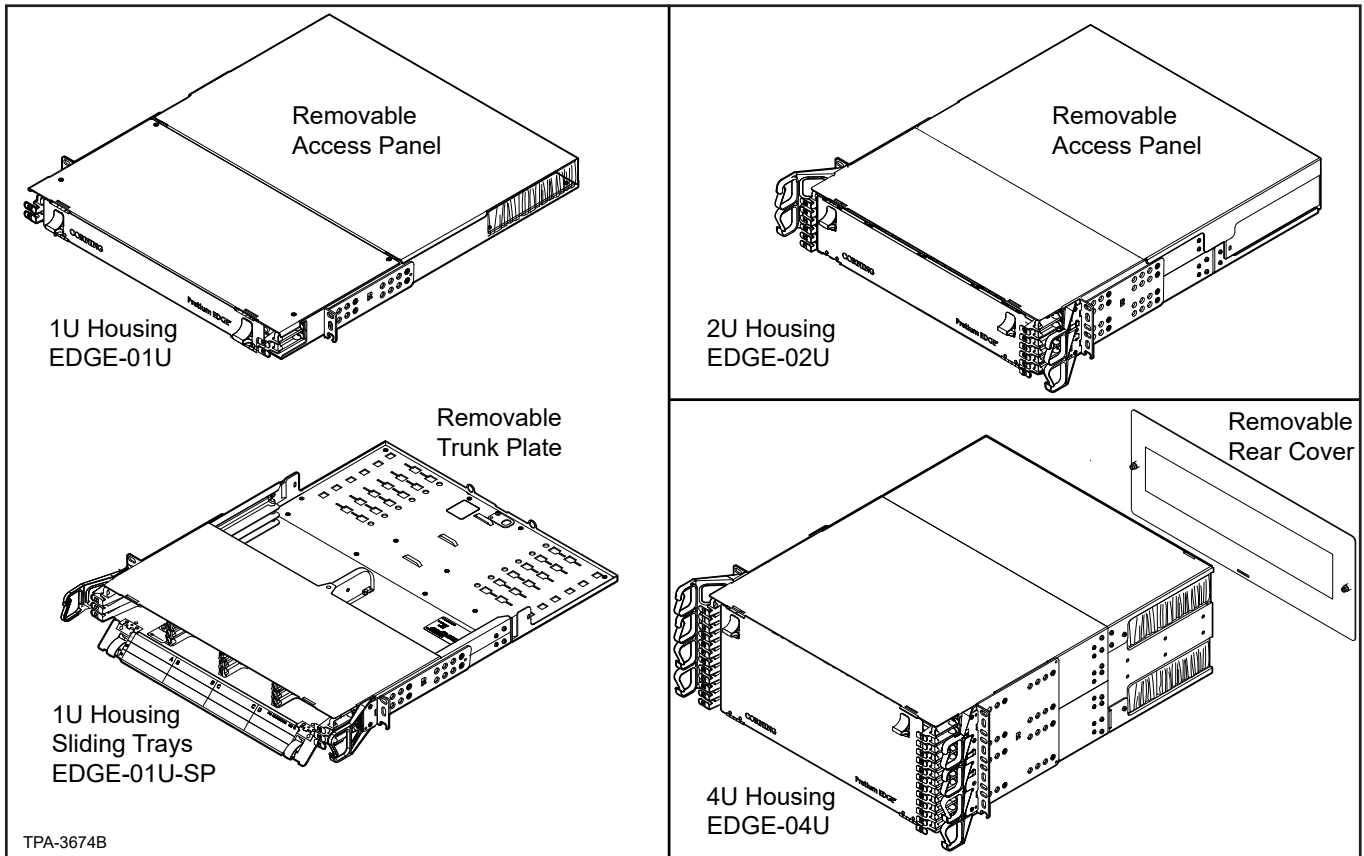

Figure 1 — EDGE Housings
This document describes installation of the EDGE™ 1U, 1U-SP, 2U, and 4U Housing Solutions (Figure 1). Except where installation of another housing is unique, only the 4U housing is illustrated.
**Step 1:** Remove the access or rear cover from the housing to reach the backplate (Figure 1).